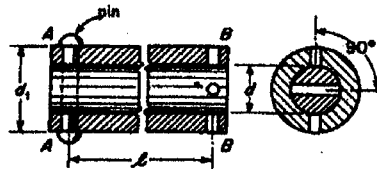

Fig. 4(b)
- (b) A solid steel shaft of diameter $d = 6$ mm fits loosely inside a hollow steel shaft of inside diameter $d = 6$ mm and outside diameter $d_1 = 9$ mm as shown in Fig. 4(b). A pin AA prevents relative rotation between the ends of the shafts at the left. Pinholes at the right are initially at right angles to each other as shown. The two shafts are now twisted in opposite directions until the pinholes at B line up and a pin BB is then inserted. How much strain energy will be locked in the system if $l = 250$ cm? Assume $G = 84 \times 10^4 \text{ Kg/cm}^2$.